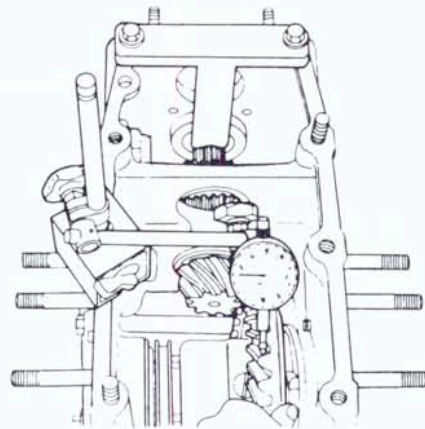

Fig. 131—Use dial indicator to check backlash between bevel ring gear and pinion gear.
**95. BACKLASH ADJUSTMENT.** Backlash between bevel pinion gear and bevel ring gear should be 0.20-0.25 mm (0.008-0.010 inch). To check backlash, position a dial indicator against tip of one ring gear tooth (Fig. 131). Secure pinion shaft, move ring gear by hand and